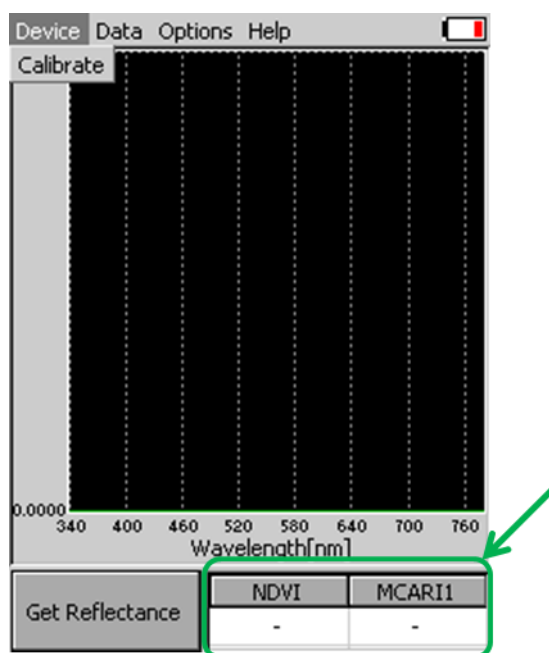

Fig. 6 Indexes table
- The table displays a group of selected indices calculated for actual measured data (Fig. 6). To define the indices of interest, go to **Options > Settings > Indexes**. You can select **two indices** that are currently displayed. However all indices are calculated and stored in the device memory. Entire list of the indices can be displayed after a data download to PC. The software also allows a calculation of custom indices defined by user (please refer to page 35).